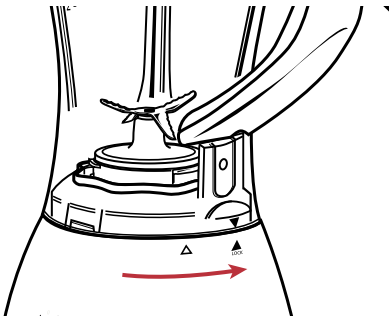

Fig 19
3. To lock the blender into place, simply hold the handle of the jug and turn it to the right. The solid grey arrow-▼ on the blender jug should now be aligned with the solid grey arrow-▲ on the food processor body, see Figure 19.